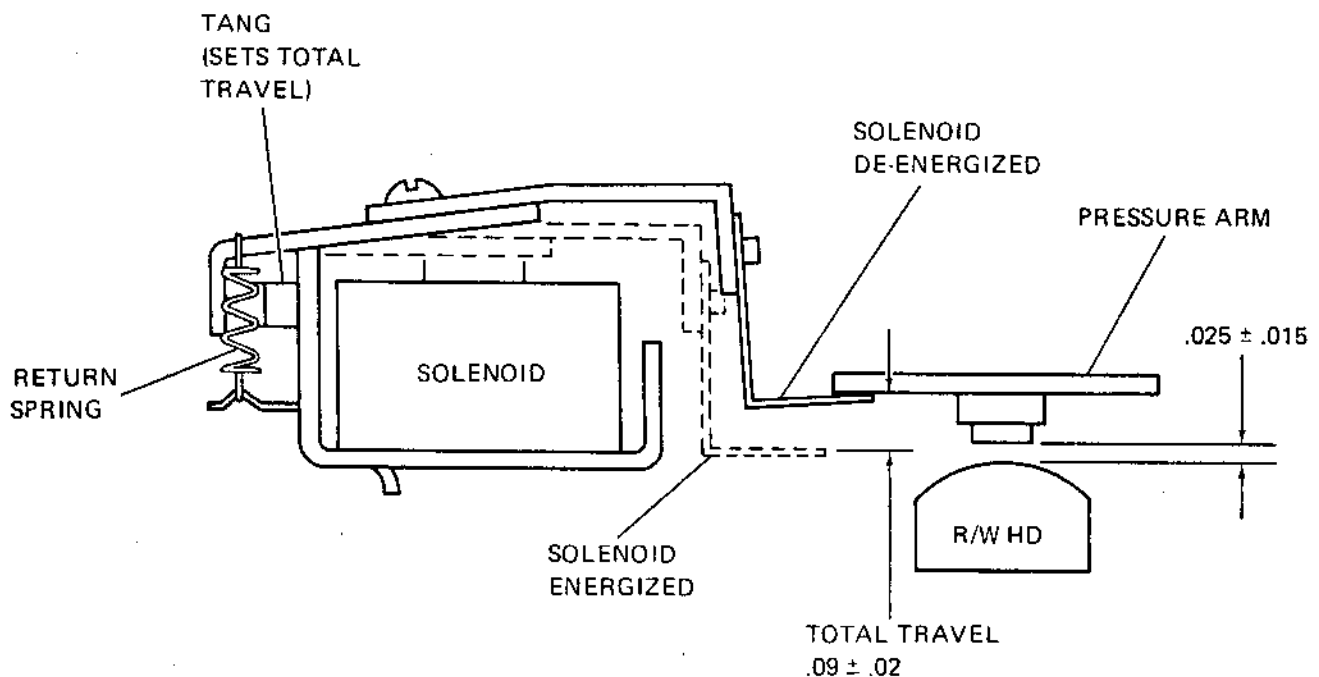

Figure 2-4. Head Load Check and Adjustment
- d. The total displacement of the solenoid lifter paddle should be $.09 \pm .02$ inches at the point where it contacts the pressure arm. (Figure 2-4.)